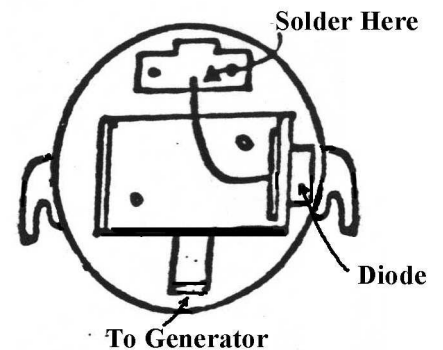

FIGURE 3
9. Bend the diode lead over and solder it to the small bracket. See Figure 3.